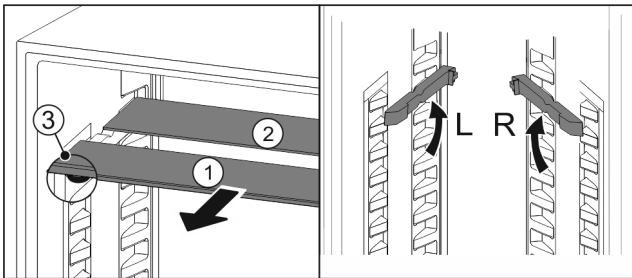

Fig. 121
- ▶ Pull the glass panels out Fig. 121 (1) from the front, one at a time.
- ▷ The glass panel Fig. 121 (1) and trim strip are at the front.
- ▷ The stops Fig. 121 (3) point down.